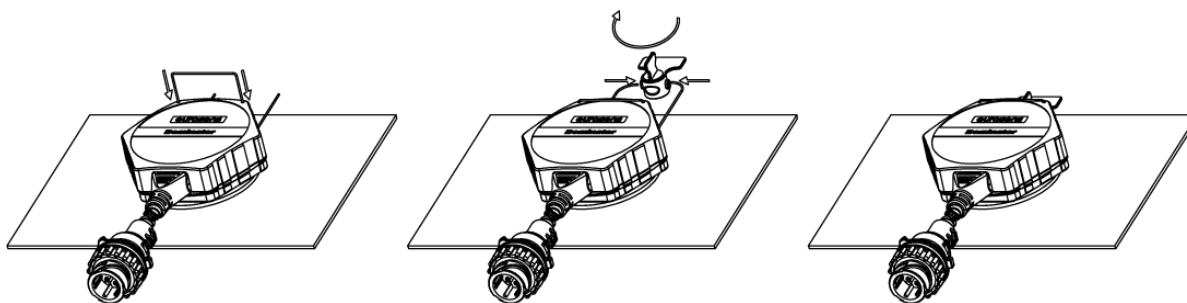

fig. 7.10. Sealing method 1
1. The sealing cable is threaded through the holes in the sensor case and in the bayonet, and prevents the sensor from removal (fig. 7.10).